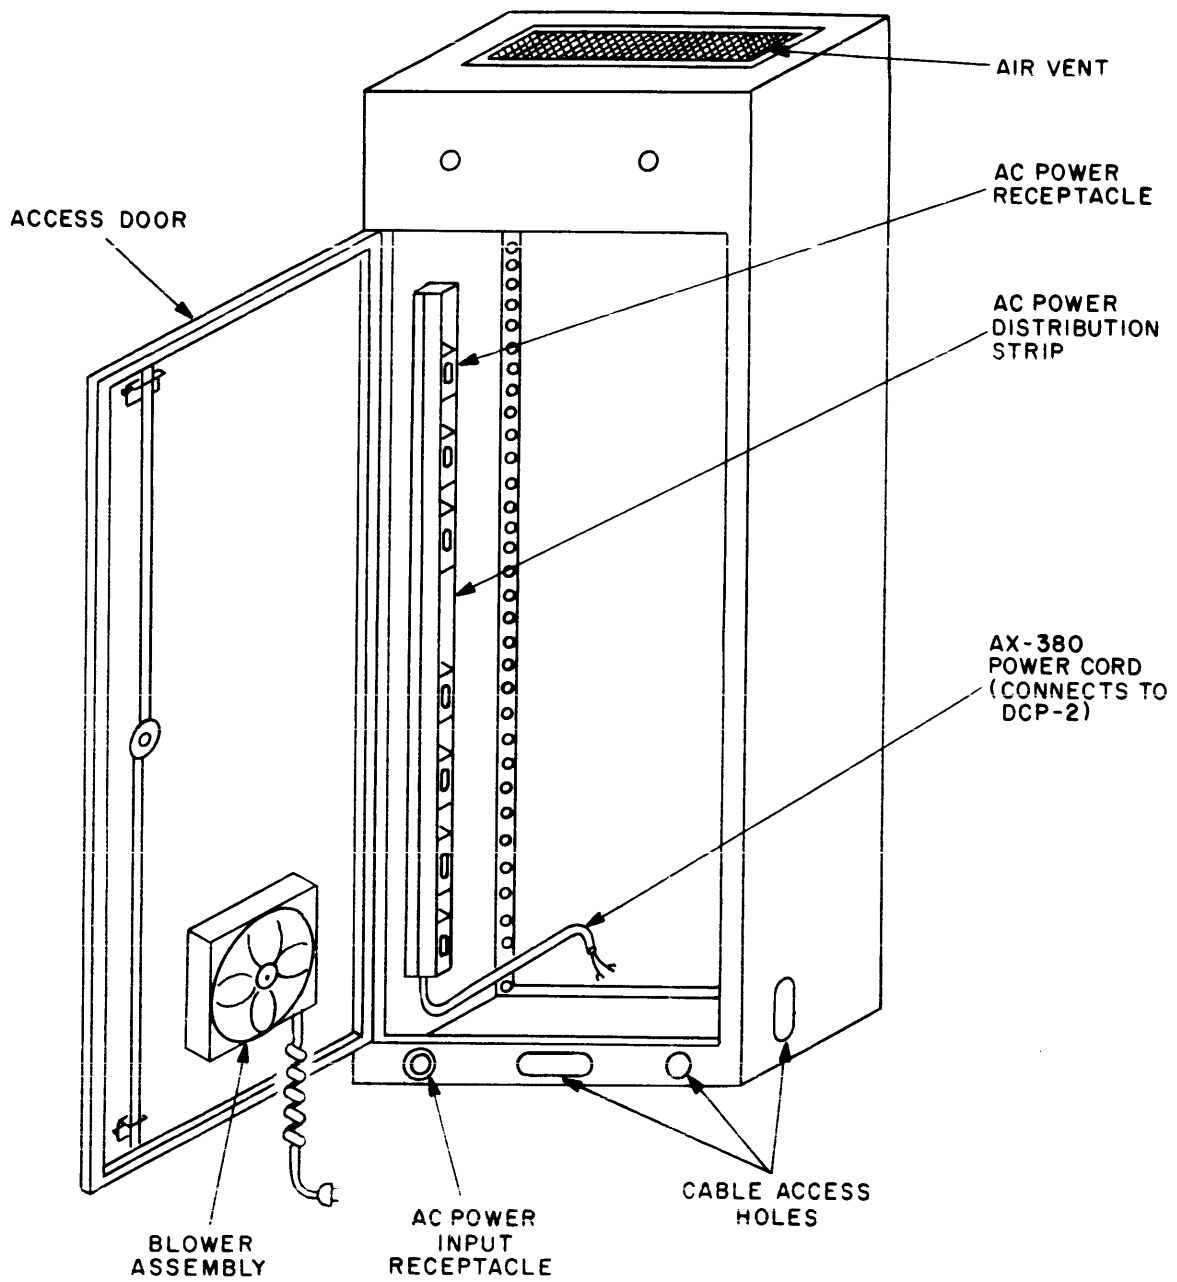

Figure 1. Electrical Equipment Cabinet, RAK-31A, Rear View
a. ELECTRICAL EQUIPMENT CABINET RAK-31A. - RAK-31A (figure 1) is a single rack providing an enclosure for the various modular units constituting the DDR-8. The rack is equipped with seven sets of tilt-lock drawer slides for mounting the GPR-92 receivers, the SBS-1 sideband selectors, the AFC-2A automatic frequency controls, and the VOX-5 variable frequency oscillator. Two sets of non-tilt drawer slides are provided for mounting the LPP-4 line patch panel and the DVC-1 diversity voice combiner. Refer to figure 1-2 of the DDR-8 system manual for the location of modular units in RAK-31A. Cable retractors, mounted on the right side of the rack (as viewed from the rear), are provided for retracting wiring cables of slide-mounted units to prevent snagging. Cable access holes with removable cover plates are conveniently located on both sides, bottom, and rear of the rack for installation flexibility (refer to Section 2 of the DDR-8 system manual).